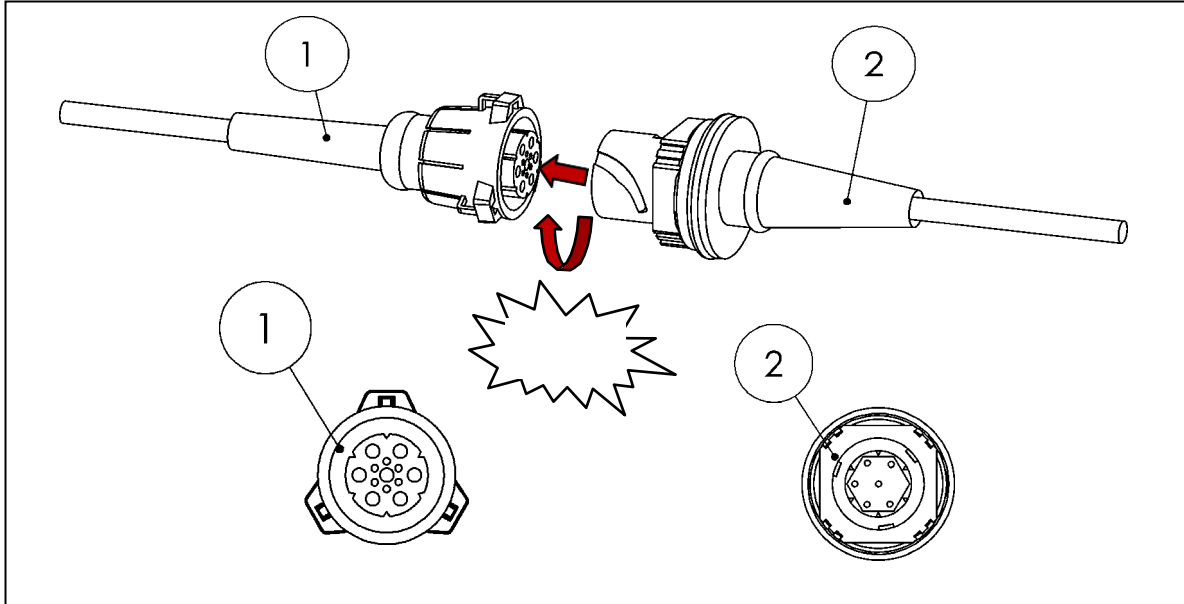

Figure 21
- Route the cabin switch cable from the **accessories kit (Item No. 11)** to the driver's cabin (see Fig. 21).